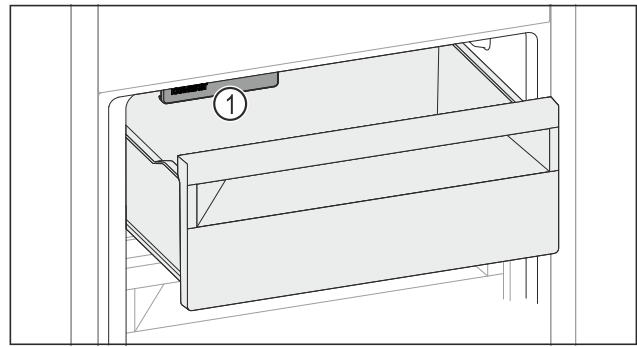

Fig. 227
- ▶ Watch out for the IceMaker Fig. 227 (1).